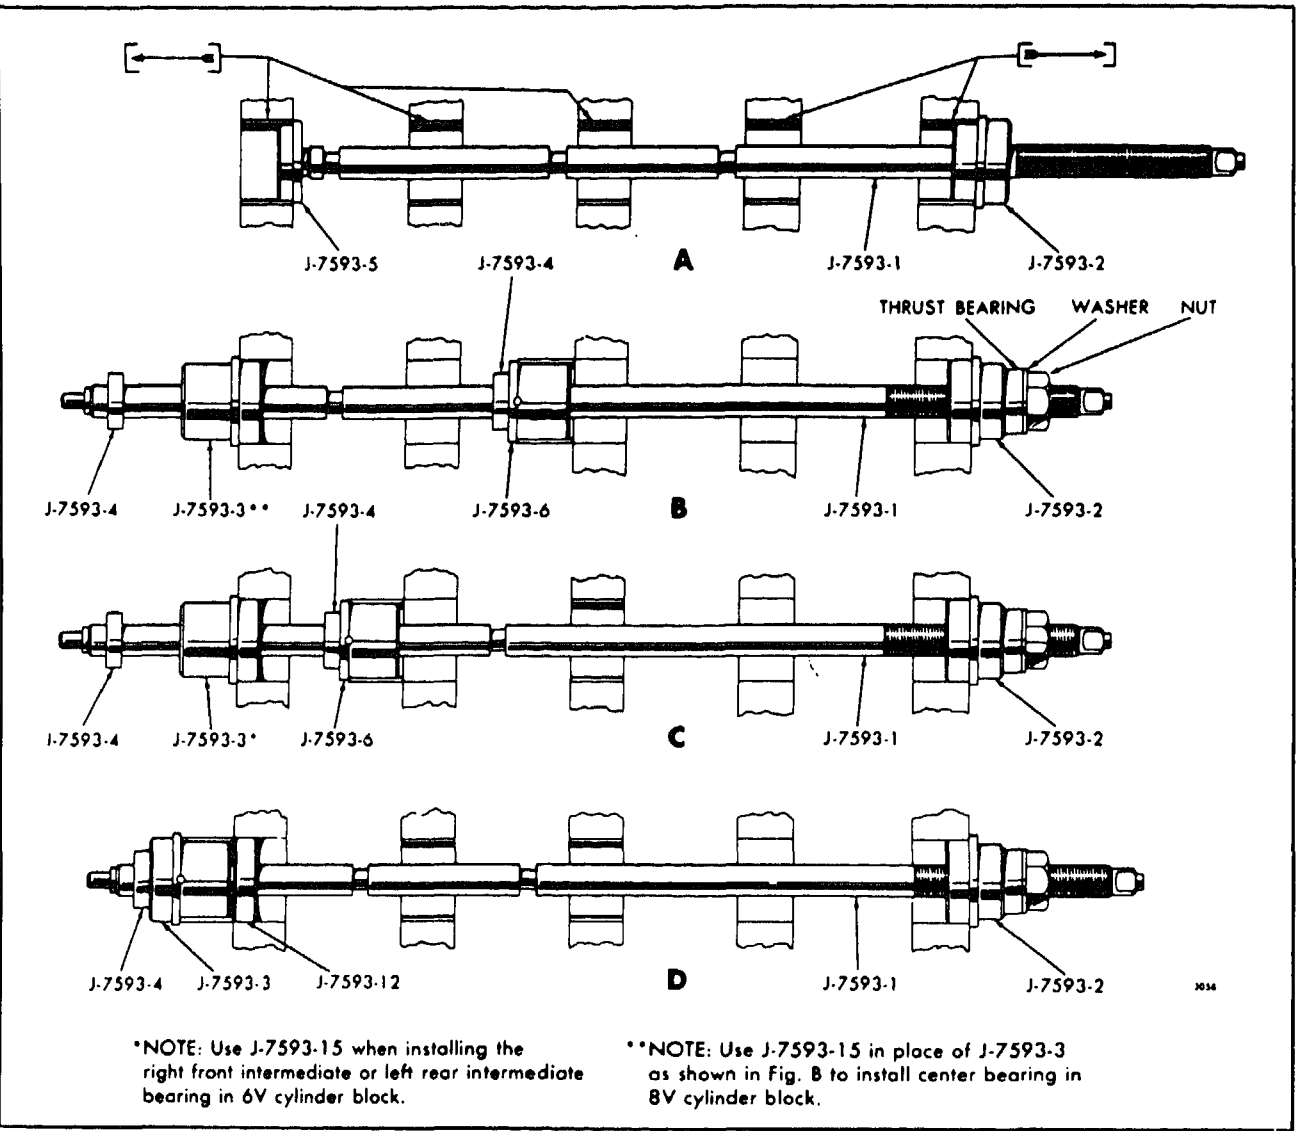

Fig. 7 - Removing and Replacing Camshaft or Balance Shaft Bearings
1. Remove all accessories and assemblies with their attaching parts as is necessary so that tool set J 7593-02 may be used as shown in Fig. 3 and in A of Fig. 7.
end bearing has been installed. Refer to B and C of Fig. 7.
4. Slide installer J 7593-6 on the shaft until the locating pin registers with the notch in the bearing. Then, slide installer J 7593-3 or J 7593-15 on the shaft with the large diameter inserted into the end of the block bore. Refer to C and note of Fig. 7.
1. Insert pilot J 7593-2 in the bore of the block as shown in "D" of Fig. 7. Use the small diameter of the pilot if a bearing has been installed.
5. Next, place a spacer (if required), thrust washer, plain washer and hex nut over the threaded end of the shaft as shown in "D" of Fig. 7 and, using a suitable wrench on the hex nut, draw the bearing into place until the shoulder on the installer prevents the shaft from further movement. The bearing is now installed in its correct position.